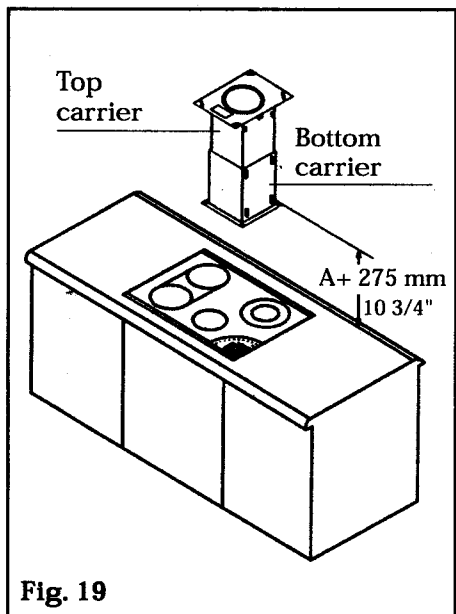

Fig. 19
- Push the bottom mounting part over the top mounting part suspended on the ceiling (Fig. 19). By means of the previously removed sheet metal screws (Item 5), screw together the two mounting parts so that the bottom edge of the lower mounting part is at the above-mentioned distance (A + 275 mm (10 3/4")) from the work surface (Fig. 19).